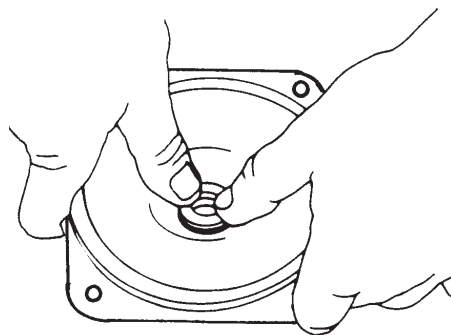

Figure 36B - Press In Seal
6. With thumb pressure, press ceramic seal half firmly and squarely into seal cavity. Polished face of ceramic seat is up. If seal will not seat correctly, remove, placing seal face up on bench. Reclean cavity. Seal should now seat correctly (See Figure 36B).